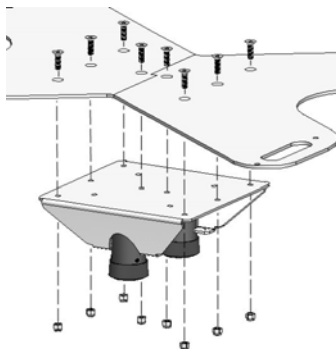
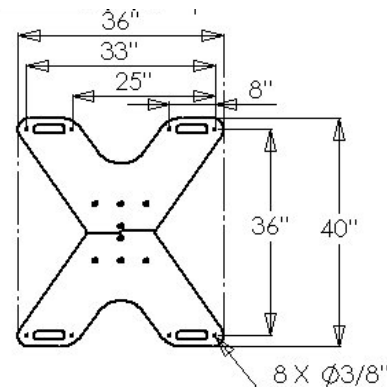

Figure 2. Plates to Base
Figure 3. Dimensions
1. Secure front and back dual base plates to floor stand base using eight flat head cap screws and Nylock nuts (see Figure 2 and Figure 3).